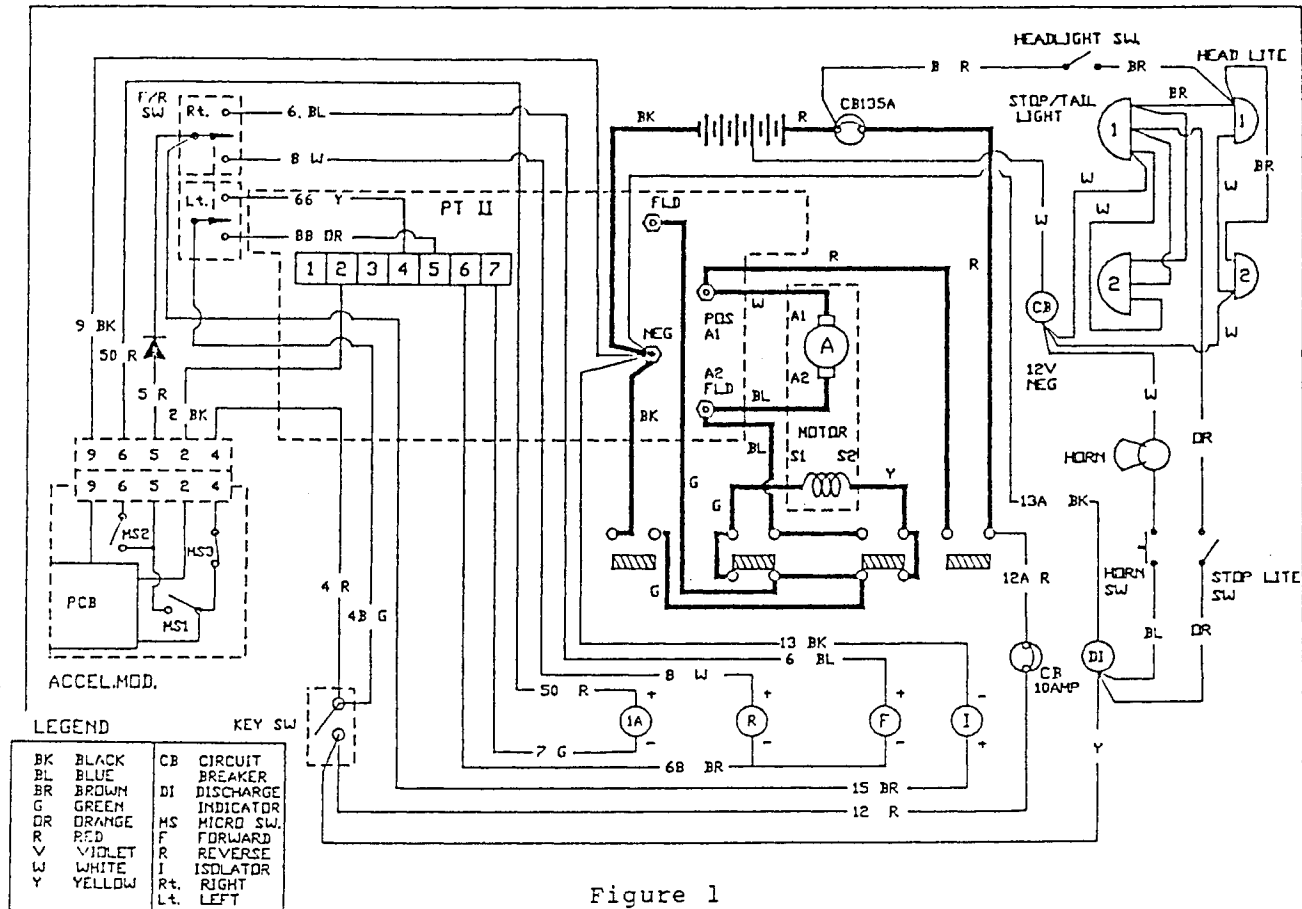

Figure 1
**CONTROL CIRCUIT** (See Figure 1, Shown in light lines) Control Harness 75-146-22. 75-146-32 is the control harness for tractor model C 4-10.